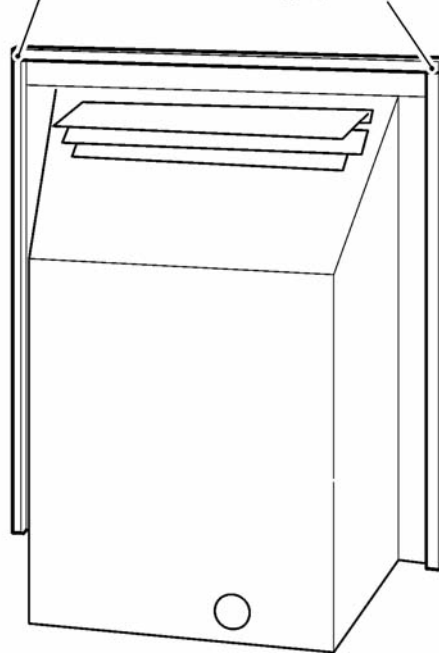

Figure 13. Fitting the foam seal
- 5.** There is a length of self adhesive foam seal supplied with the fire. This will need to be fitted to the outer rear edges of the side and top flanges of the hotbox. Cut a 485mm length of foam seal. Be careful not to stretch the seal when measuring. Remove the protective backing from the foam seal and fit this to the rear of the top flange (See figure 13). Cut two 580mm lengths. Fit these to the rear outer edges of the side flanges. Ensure that there is no gap between the foam seals where they meet at the top flange (See figure 13)